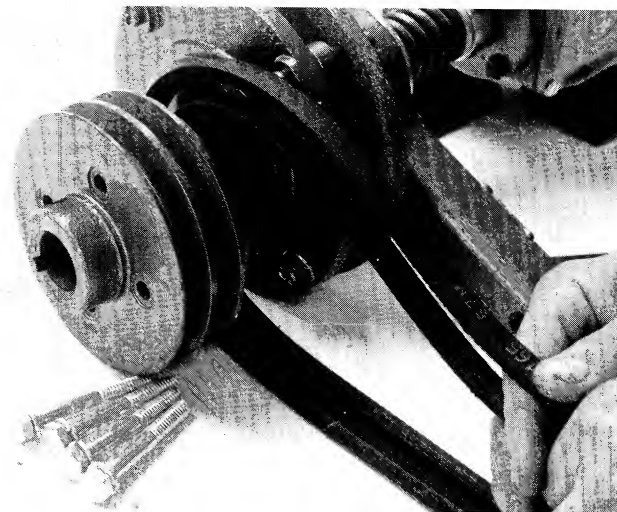

FIGURE 23. SPLITTING THE PULLEY
3. Slide the front half of the pulley forward and the back half of the pulley backwards and drop the belts between the two halves. See Figure 23.